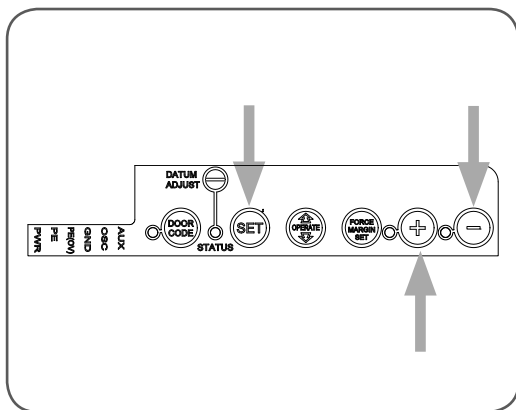

fig 30
- Press and hold the MINUS (-) button until the door reaches the desired close limit position. Single presses will inch the door closed (**Fig 30**).
- Press the LIMIT SET button to store the close position into memory (**Fig. 30**).
- Press and hold the PLUS (+) button until the door reaches the desired open limit position. Single presses will inch the door open (**Fig. 30**).
- Press the SET button to store the close position into memory (**Fig. 30**).